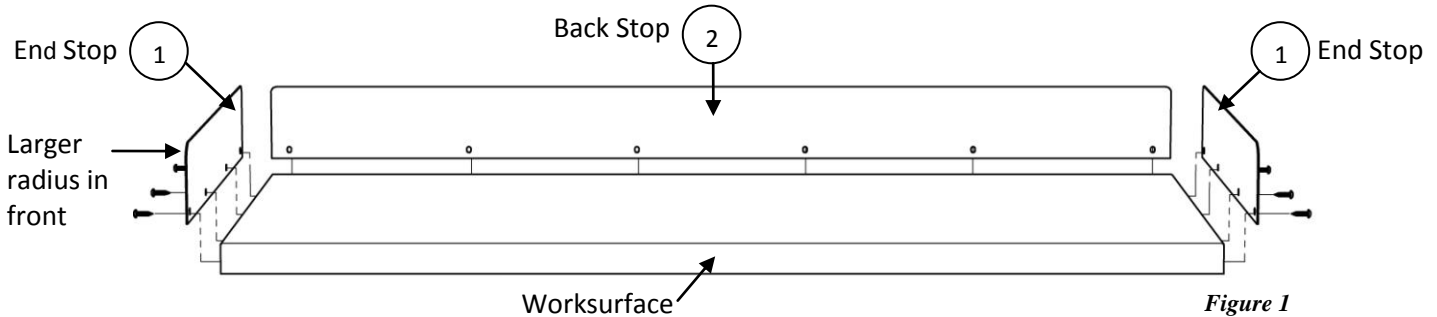
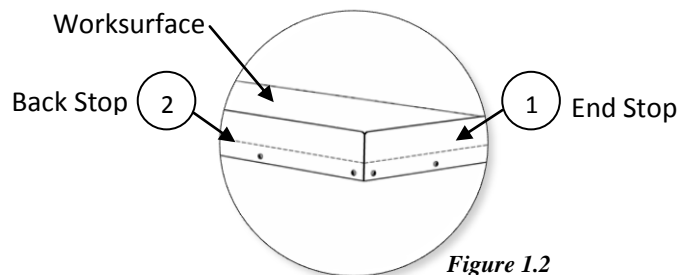

Figure 1
Figure 1.2
1. Orient the end stop ① so the larger corner radius is toward the front of the worksurface. (See figure 1)
2. Align the bottom edge of the end stop ① with the bottom edge of the worksurface. Align the rear edge of the end stop ① with the rear corner of the worksurface. (See figure 1.2)
3. Mark hole locations using the end stop ① as a template. Center punch the hole locations and drill 3/16" diameter pilot holes 1 1/4" deep.
4. Attach the end stop with #14 x 1" long phillips pan head screws. (See figure 1)
1. Align the bottom edge of the back stop ② with the bottom edge of the worksurface (See figure 1.2). Center the back stop ② across the length of the worksurface.
2. Mark hole locations using the back stop ② as a template. Center punch the hole locations and drill 3/16" diameter pilot holes 1 1/4" deep.
3. Attach the back stop ② with #14 x 1" long phillips pan head screws. (See figure 1)
1. While holding the snap button down ④ slide the L-brackets ③ into the base supports ②. (See figure 1)
2. Center the riser shelf ① onto the L-brackets ③. Align the rear edges of riser shelf ① with the rear edges of the L-brackets ③.
3. Use the L-brackets ③ as a template and mark hole locations. Center punch and drill  $\frac{3}{16}$ " diameter pilot holes  $\frac{3}{4}$ " deep.
4. Attach the riser shelf ① to L-brackets ③ the using #14 x  $\frac{3}{4}$ " long slotted hex head screws.